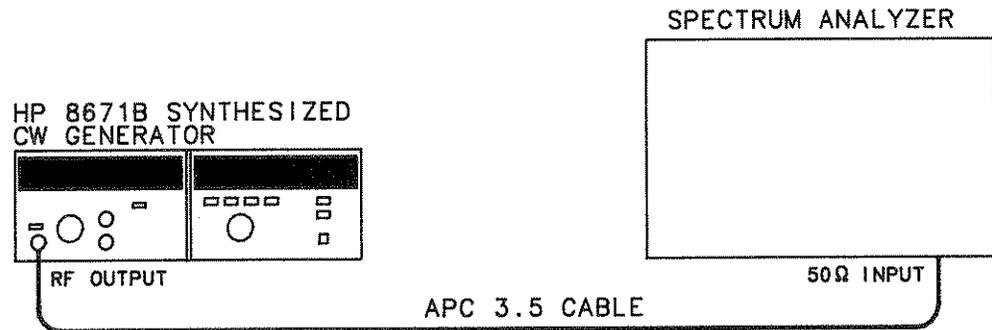

Figure 4-9. Harmonics, Subharmonics, and Multiples Test Setup
1. Connect the CW Generator RF OUTPUT to the input of the spectrum analyzer as shown in Figure 4-9.